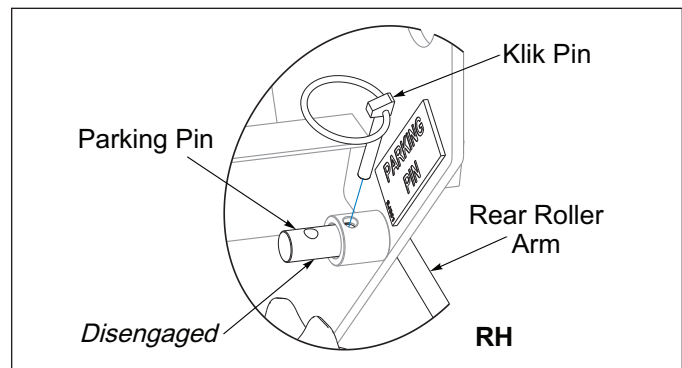

Figure 3-1: Parking Pin Disengaged
4. Disengage both Parking Pins from the back LH and RH sides of the Seeder. This will allow the Rear Roller to float during operation. **See Figure 3-1.**